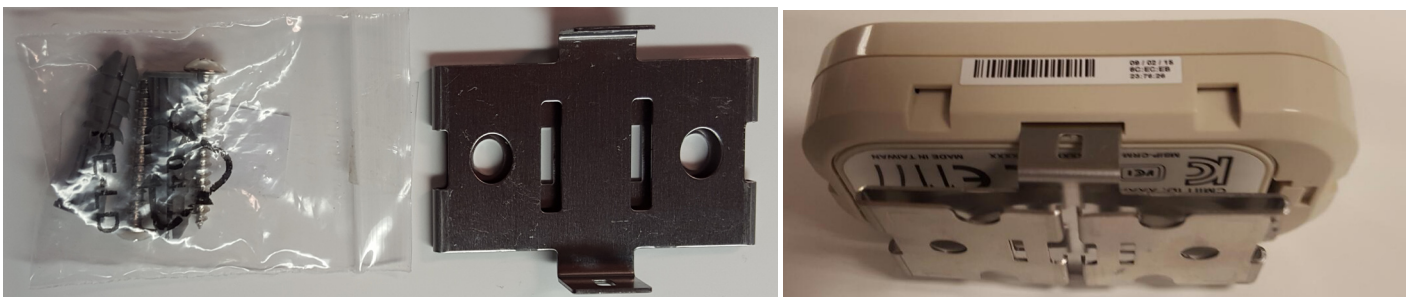

Figure 2-5 Metal Beacon Wall Mount Bracket: MPACT-MB2000-01-WR
- Bracket mount kit see Figure 2-5 (included with part number MPACT-MB2000-01-WR):
- .b Press the beacon's housing onto the bracket as shown in Figure 2-5.